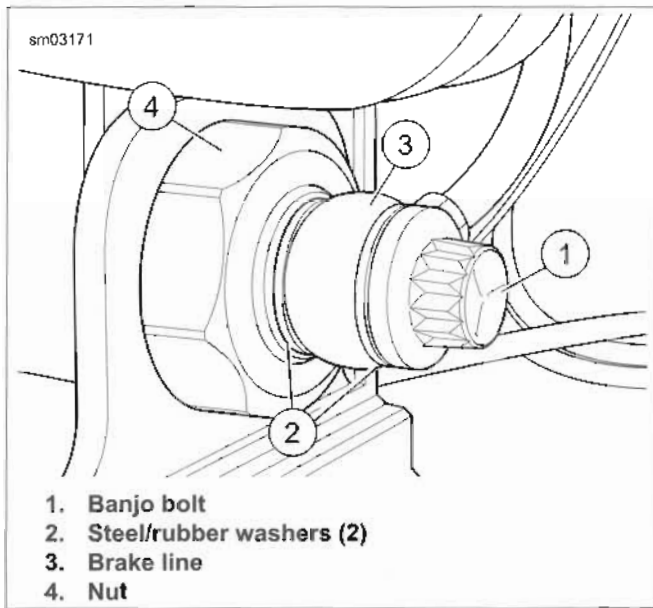
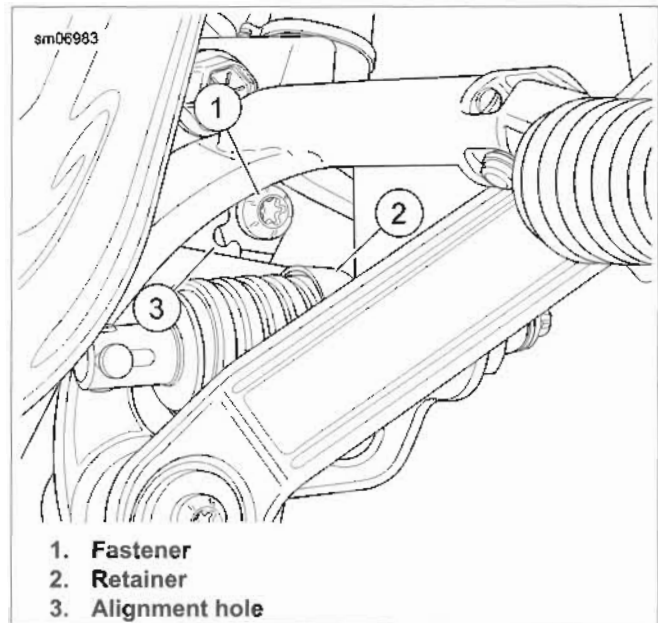

Figure 2-52. Rear Brake Control: Front Mount
Figure 2-53. Master Cylinder Retainer
1. See Figure 2-53. Remove fastener (1) and retainer (2).
2. See Figure 2-52. Remove banjo bolt (1) and two steel/rubber washers (2) to disconnect brake line from master cylinder. Discard washers.
3. Remove nut (4) to free assembly from mounting bracket.
- Install master cylinder assembly on brake pedal. Install washer (5) and **new** cotter pin (4) on clevis pin (6).
- See Figure 2-52. Fit collar on cartridge body into hole of mounting bracket. Apply LOCTITE 243 MEDIUM STRENGTH THREADLOCKER AND SEALANT (blue) to threads of nut (4). Install nut on cartridge body until finger tight. Tighten to 30-40 ft-lbs (40.7-54.2 Nm).
- Lubricate **new** steel/rubber washers (2) with DOT 4 BRAKE FLUID. Position **new** steel/rubber washers on each side of brake line (3). Insert the banjo bolt (1) through washers and fitting. Tighten to 17-22 ft-lbs (23.1-29.9 Nm).
- See Figure 2-53. Install retainer (2) into position. Make sure tab on retainer is in alignment hole (3). Install fastener (1) and tighten to 29-34 ft-lbs (39.4-46.1 Nm).